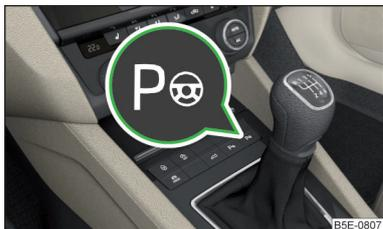
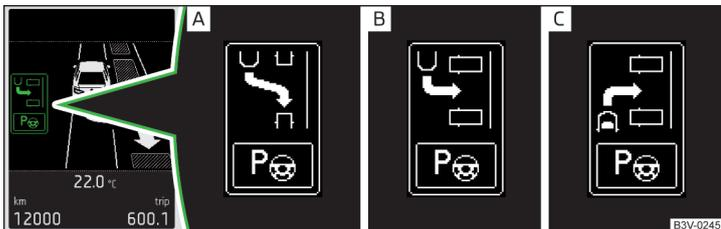

Fig. 257
Fig. 258 Menus with the parking modes: Display indicator
- The parking procedure can be stopped at any time by pressing the  » Fig. 257 on page 224 button or by a steering intervention.
The system can be activated/deactivated by pressing the **P** button» Fig. 257.
- › Activate the system with the **P** button» Fig. 257 on page 224.
Parking modes » Fig. 258
The parking mode can be changed by pressing the **P** » Fig. 257 on page 224 button.
As soon as the system finds a parking space, select the **P**  » Fig. 257 on page 224 button for forwards parking mode » Fig. 258 on page 225 - **C**. The display shows the following » Fig. 261.
- Press the **P**  » Fig. 257 on page 224 button.